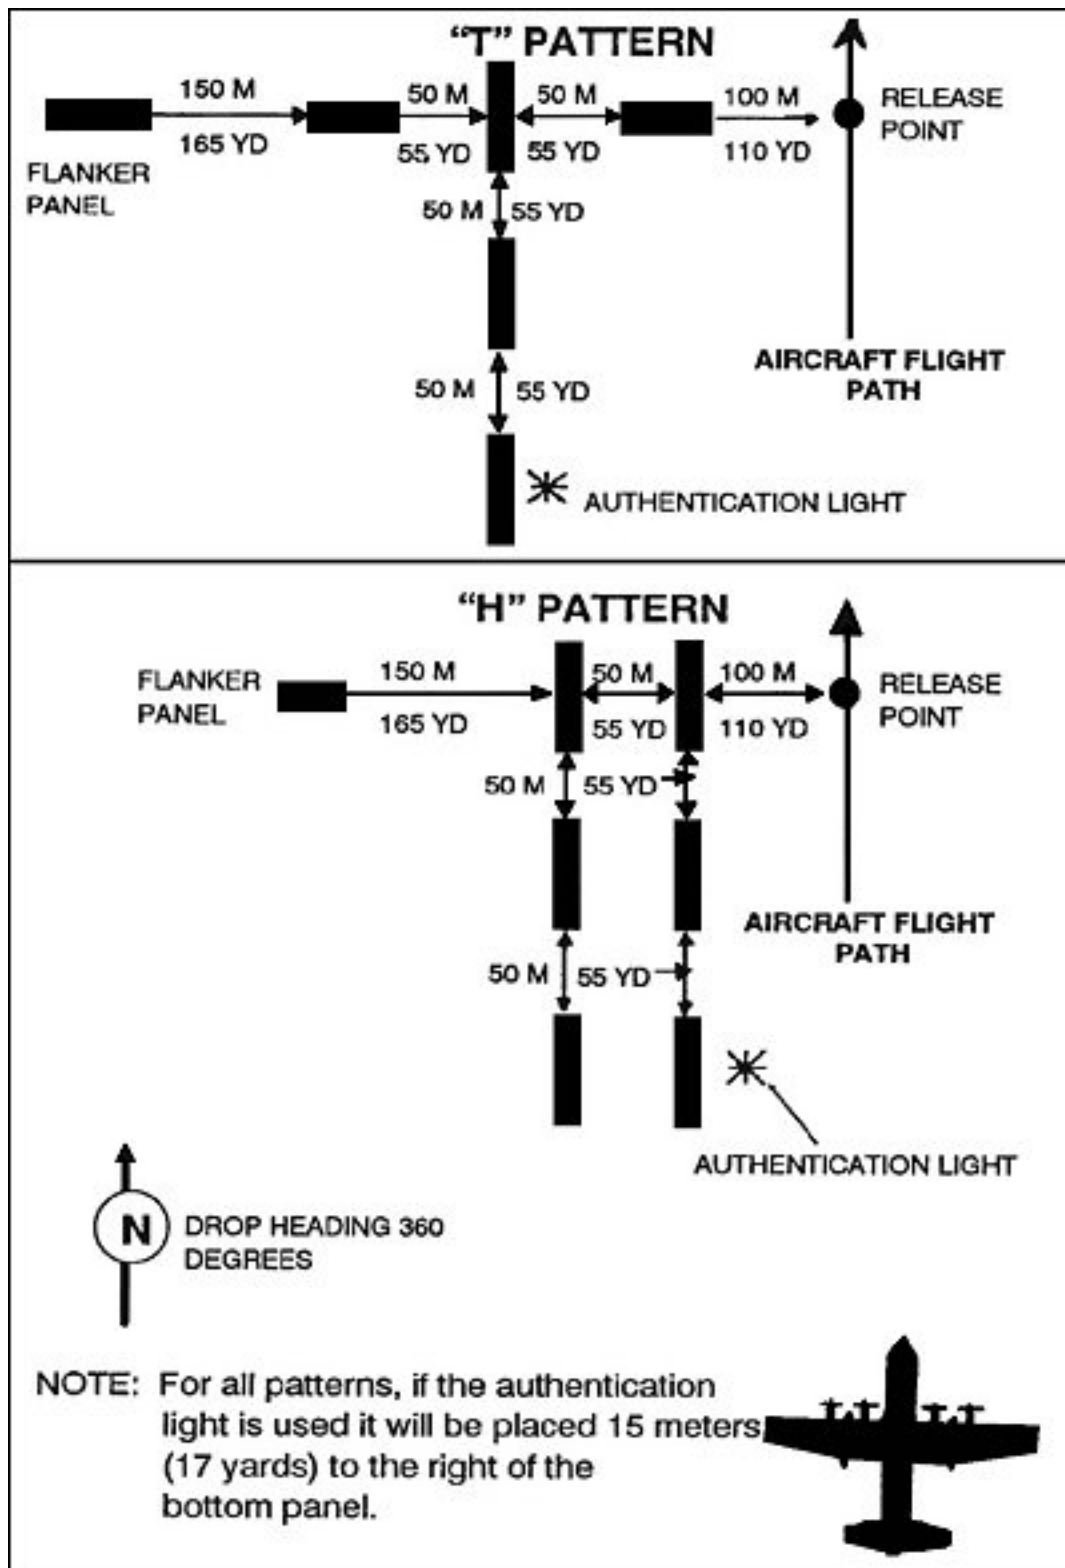

Figure 6-8. Panel emplacement.
- (1) **Inverted "L" Pattern.** The inverted "L" has four panels:
b. **VS-17 Panels.** Figure 6-8 shows panel emplacement for "H" and "T" patterns.